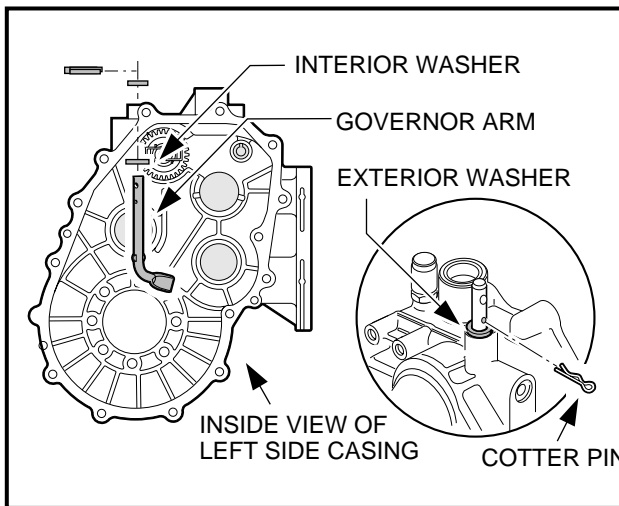

Figure 16-71 Pivot Arm
5. Position the interior washer on the pivot arm, then install the pivot arm and washer into the left (driver side) case as shown (**Figure 16-71, Page 16-30**). Install the exterior washer and cotter pin on the pivot arm outside the case as shown (**Figure 16-71, Page 16-30**). Bend the legs of the cotter pin.